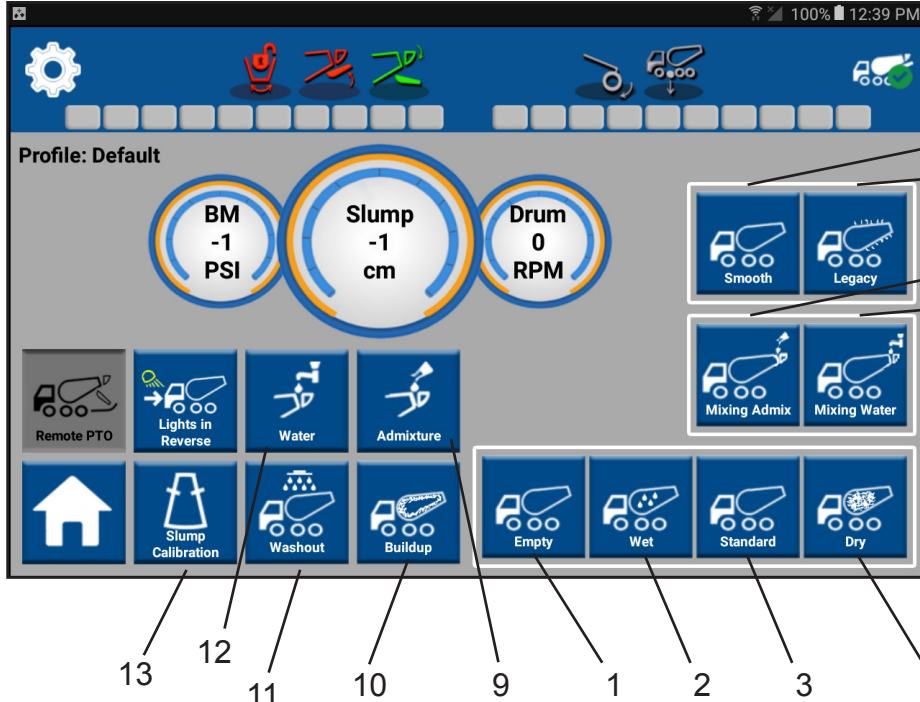

Figure 21
- Empty (Figure 21, Item 1). Spins the drum at 1 RPM in Constant Speed.
- Wet (Figure 21, Item 2). Spins drum at 5 RPM Low Constant Speed and 12 RPM High Constant Speed.
- Standard (Figure 21, Item 3). Spins drum in two configurable constant speeds (Low: 1-3 RPM; High: 3.1-7 RPM).
- Dry (Figure 21, Item 4). Spins the drum at 1.5 RPM in Constant Speed.
- Mixing Admix (Figure 21, Item 5). Throttles up the truck to mixing speed and mixes for 30 revolutions before returning to Constant Speed.
- Mixing Water (Figure 21, Item 6). Throttles up the truck to mixing speed and mixes for 70 revolutions before returning to Constant Speed.
- Smooth (Figure 21, Item 7). Allows drum to transition to new direction/velocity with dampening to minimize wear. This is the recommended operating mode.
- Legacy (Figure 21, Item 8). Allows quick transition (faster transition than “Smooth”) to new direction/velocity without dampening.
- Admixture (Figure 21, Item 9). Allows addition of prescribed amount directly into drum, and record amount added and time of addition.
- Buildup (Figure 21, Item 10). Starts a buildup test on the drum to determine if there is ~2000 lbs. of buildup. The system performs the drum test controlling the drum for approximately one minute. The system then prompts the operator: No buildup detected; Test conditions not met; Possible buildup. Test should be performed on a regular schedule for the most accurate reading. Revolution recommends once daily.
- Washout (Figure 21, Item 11). Allows selection of up to 4 washout zones. Each zones will wash for predetermined set of time.
- Water (Figure 21, Item 12). Allows addition of prescribed amount of water directly into the drum, records amount added, and time of addition.
- Slump Calibration (Figure 21, Item 13). This screen is used to load and save slump calibrations. These values are used for the inch readouts for the Slump gauges used on the Drum and Slump screens. See 12.12 Concrete Slump Meter and 12.12.2 Setting the Digital Concrete Slump Meter for INSIGHT System Only for more information.